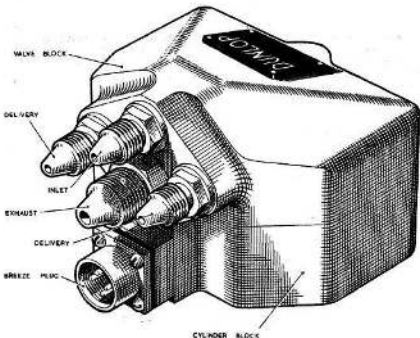

Fig. 1. Duo-electric valve (AC1130)
2. This valve (fig. 1) incorporates a cylinder block and a valve block, together forming a case which encloses two pairs of solenoid-operated valves and a pair of piston-operated valves. To the cylinder block half of the casing is fitted a 4-pin Breeze plug, and into the end of the valve block are fitted four air connections, which connect to the inlet, delivery, and exhaust pipe lines.